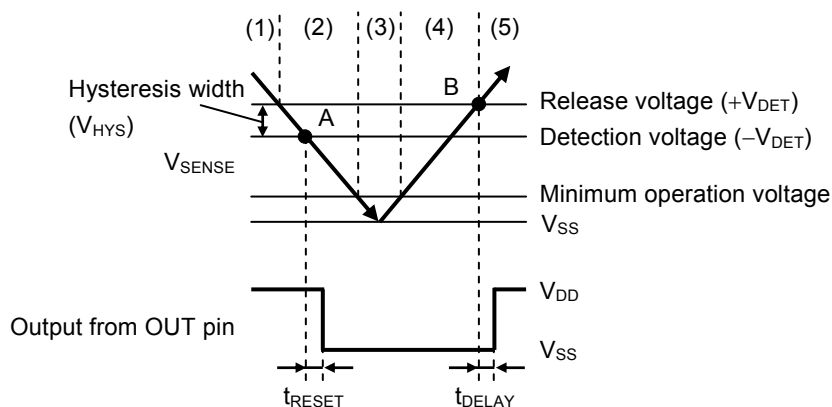

Figure 28 Timing Chart of S-1011 Series E / N Type
The hysteresis width is the voltage difference between the detection voltage and the release voltage (the voltage at point B – the voltage at point A =  $V_{HYS}$  in **Figure 24** and **Figure 28**). Setting the hysteresis width between the detection voltage and the release voltage, prevents malfunction caused by noise on the input voltage.
When  $V_{SENSE}$  decreases to  $-V_{DET}$  or lower (point A in **Figure 28**), the Nch transistor is turned on. And then  $V_{SS}$  ("L") is output from the OUT pin after the elapse of the detection delay time ( $t_{RESET}$ ).
- (3) Even if  $V_{SENSE}$  further decreases to the IC's minimum operation voltage or lower, the output from the OUT pin is stable when  $V_{DD}$  is minimum operation voltage or higher.
- (4) Even if  $V_{SENSE}$  exceeds  $-V_{DET}$ ,  $V_{SS}$  is output when  $V_{SENSE}$  is lower than  $+V_{DET}$ .
- (5) When  $V_{SENSE}$  increases to  $+V_{DET}$  or higher (point B in **Figure 28**), the Nch transistor is turned off. And then  $V_{DD}$  is output from the OUT pin after the elapse of the release delay time ( $t_{DELAY}$ ) when the output is pulled up.